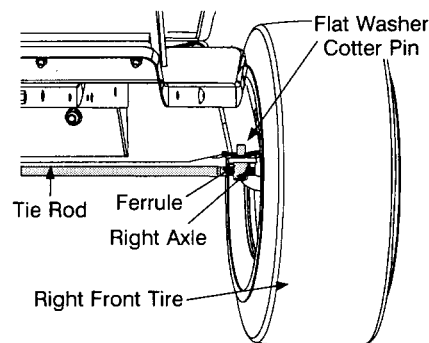

FIGURE 14
- Locate the ferrule at the right end of the tie rod, just to the rear of the right, front tire of tractor. See Figure 14.